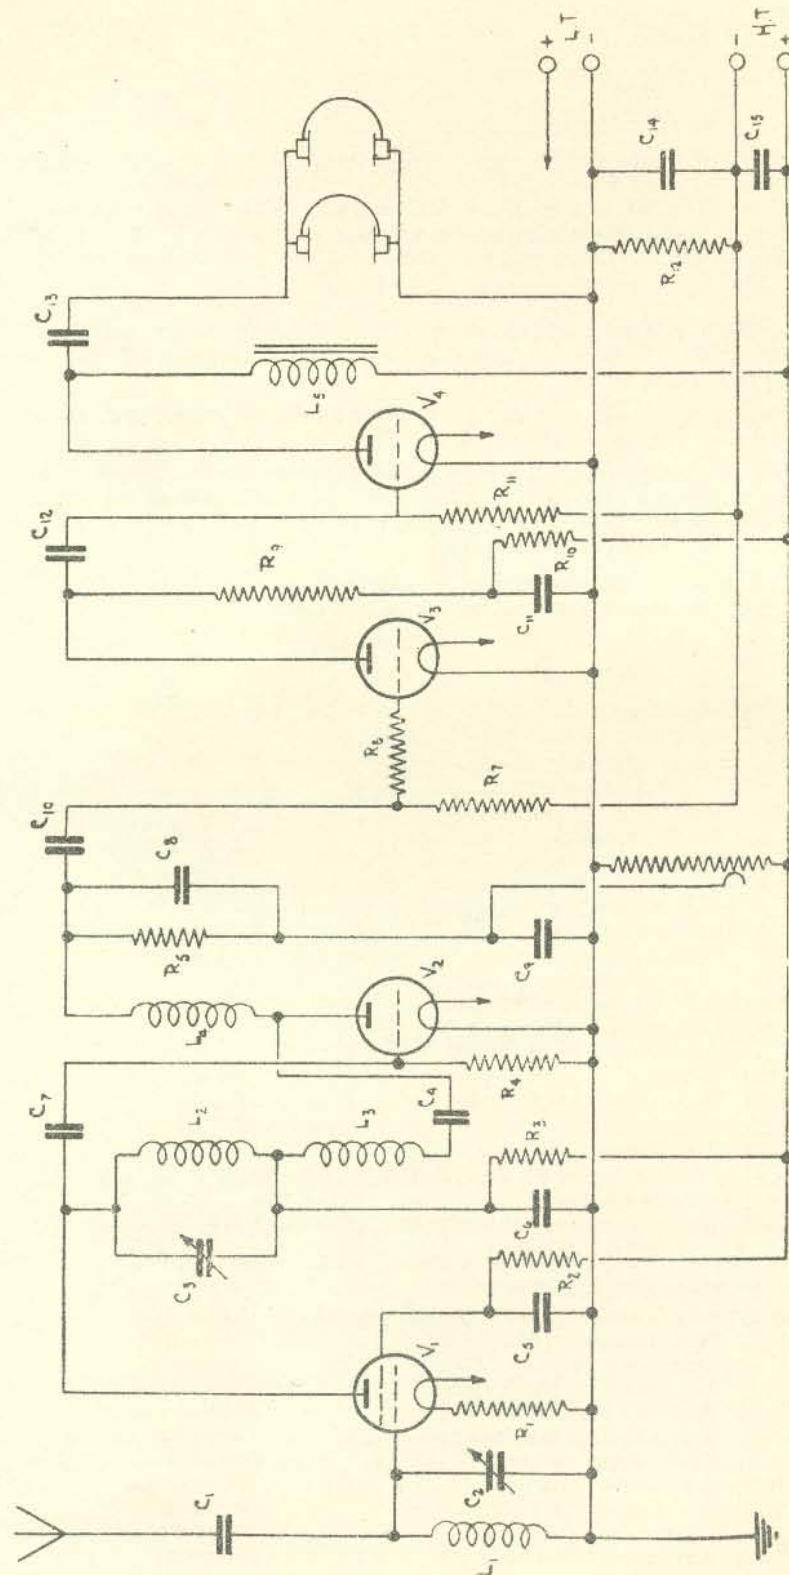

FIG. 46.—Typical straight receiver.
10. **Decoupling.**—In a receiver with several valves, if all the R.F. and A.F. circuits were allowed to flow through the H.T. battery or rectifier, "back-coupling" would result due to the voltages developed across the resistance of the H.T. battery by these currents. (The resistance of an H.T. battery when new is about 50 ohms, and up to 500 ohms when discarded. That of a mains rectifier may be 5,000 ohms.) This would cause instability and loss of amplification, and is avoided by completing each R.F. and A.F. anode circuit to cathode, via a low impedance condenser. The passage of alternating currents through the H.T. supply is further discouraged by inserting in each D.C., H.T. lead a resistance of suitable value (see fig. 46). Decoupling is most important in the case of detector valves.
12. Typical Straight Receiver is shown in fig. 46. Typical valves and purpose of components are as follows :—